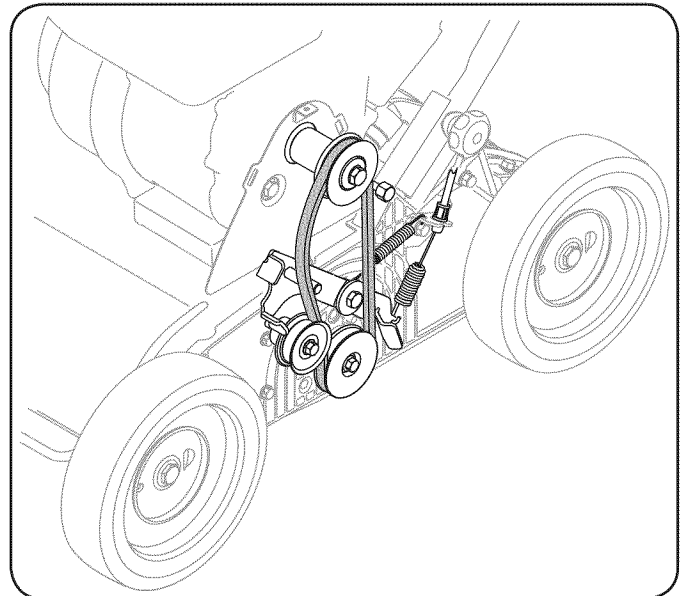

Figure 17
1. Route the belt around the top and bottom pulleys. See Figure 17.